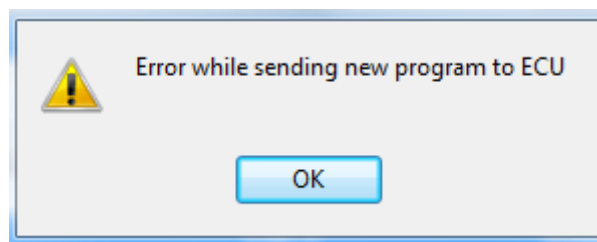

Fig. 3.11 Information about communication failure.
- In case of fault in communication during actualization, (Fig. 3.11, press „OK”) press “Auto connect”